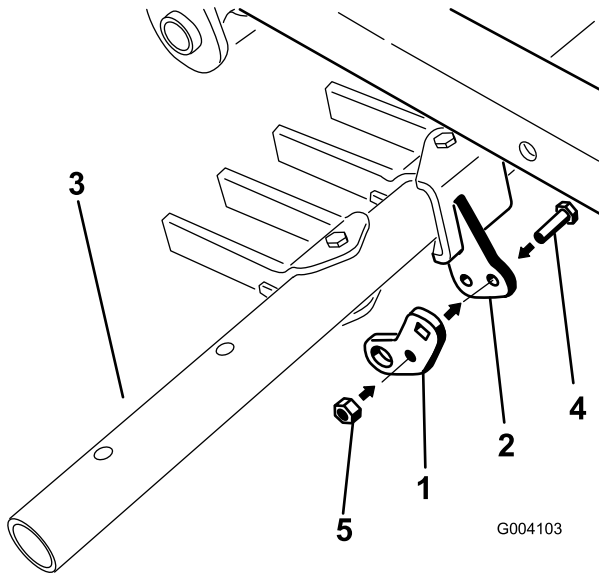

Figure 14
- Loosely install the center hole of the pivot tab to the pivot bracket on the toolbar using a bolt (5/16 x 1 inch) and a locknut (5/16 inch) (Figure 14).